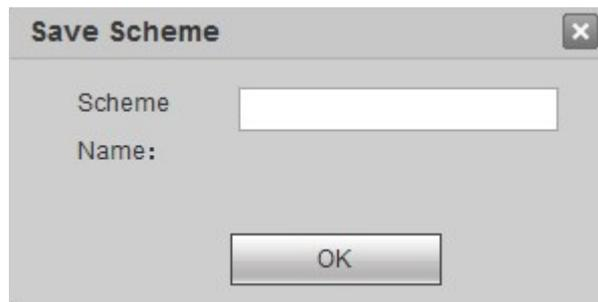

Figure 3-16
Step 2 Click . The system pops up “Save Scheme” window, as shown in Figure 3-16.